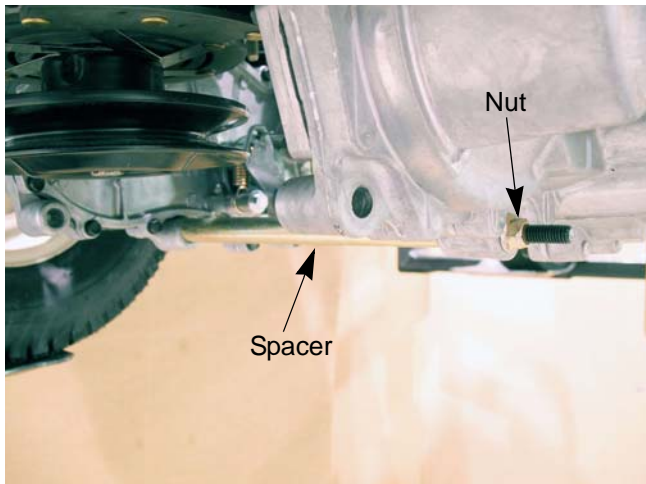

Figure 5.11
8. Remove the nut, T-bolt and spacer that connect the transmissions to each other. See Figure 5.11.